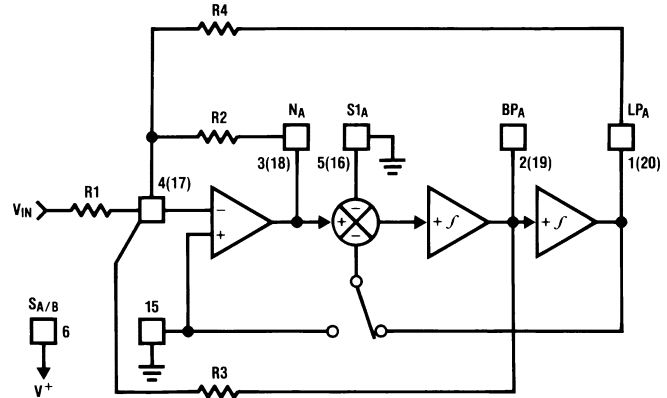

Figure 43. MODE 2
8.4.1.4 MODE 2: Notch 2, Bandpass, Lowpass: $f_{notch} < f_0$ (See Figure 43)